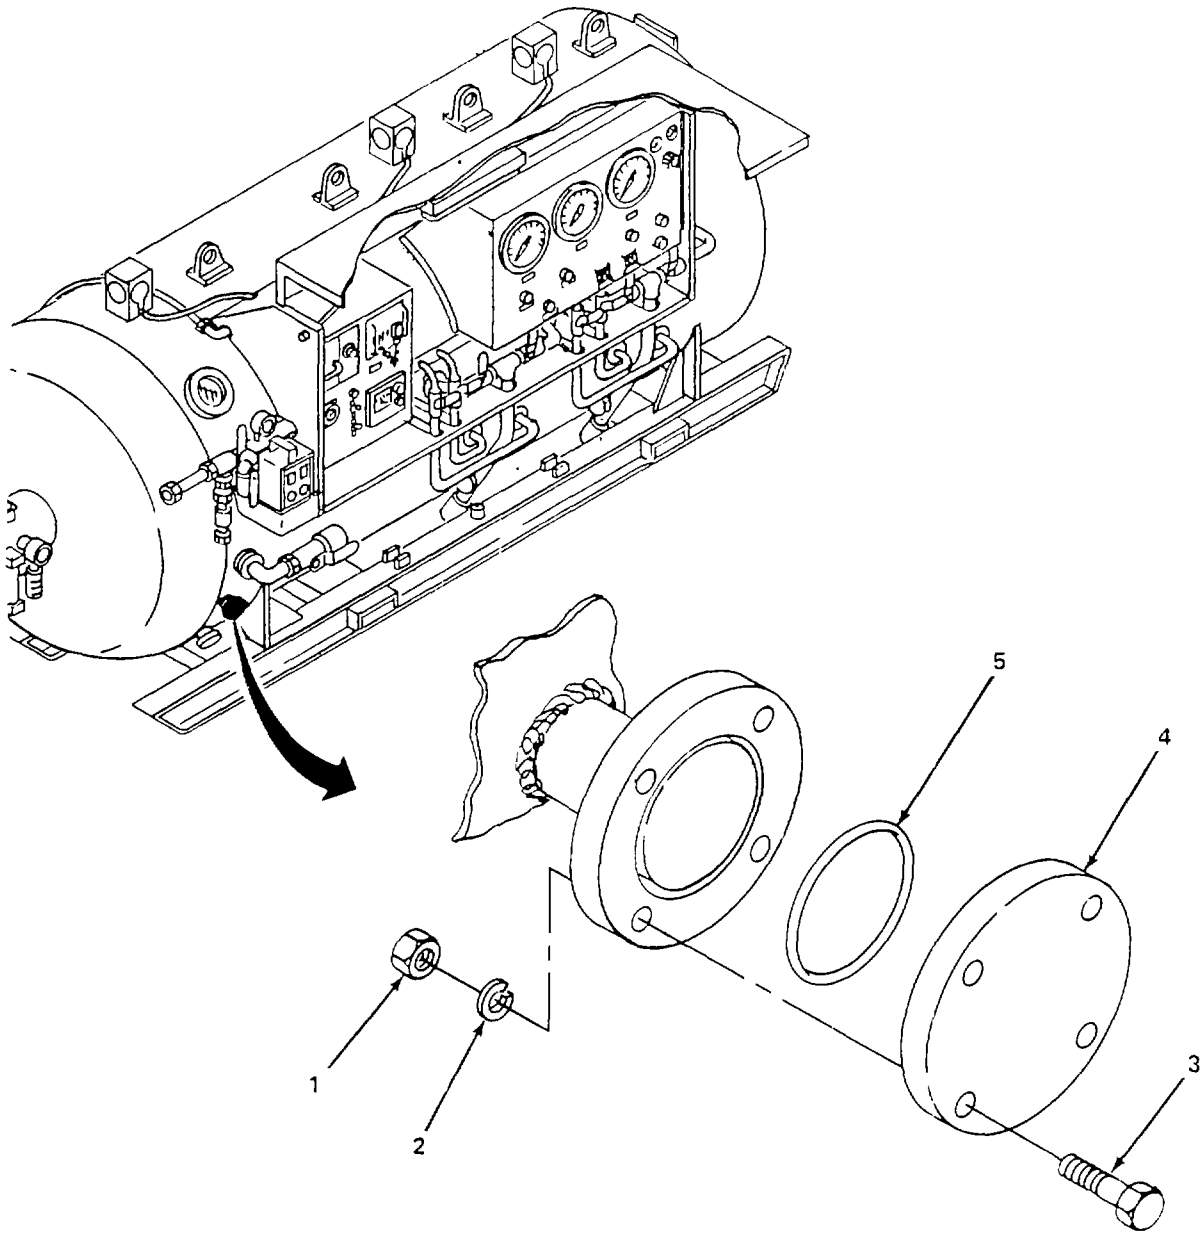

Figure 6-9. Blank Penetrator, Replace.
d. Replace Blank Penetrator. (figure 6-9)
- (1) Remove four nuts (1), lockwashers (2), and bolts (3).
- (2) Remove cover blank plate (4) and preformed packing (5).
- (3) Install preformed packing (5) and cover blank plate (4) and secure with four bolts (3), lockwasher (2), and nuts (1).